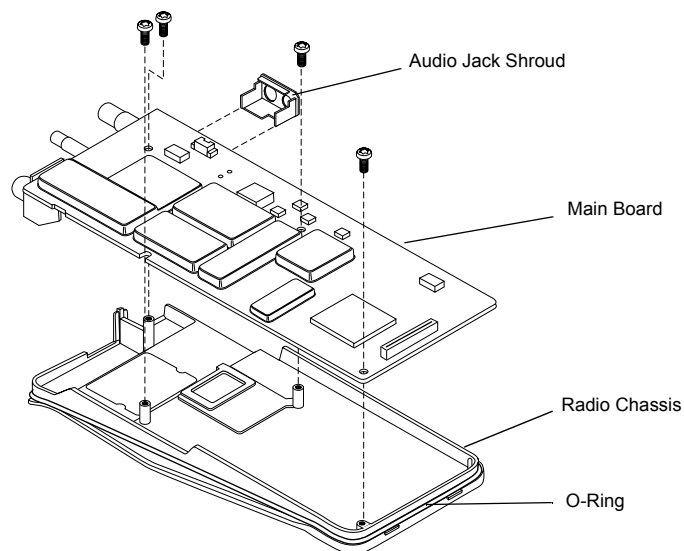

Figure 6-10. Removal of Main Board from Chassis
2. Use a Torx™ screwdriver with a T6 bit to remove the four screws (Figure 6-10) holding the main board to the chassis.
4. Lift the main board from the chassis (Figure 6-10).